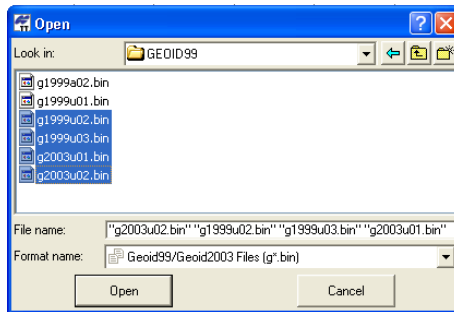

Figure 2-24. Open and Add Geoid List
2. On the **Open** dialog box, navigate to the location of the geoids list and click **Open** to add the new geoid model to the Topcon Tools geoids list (Figure 2-24).